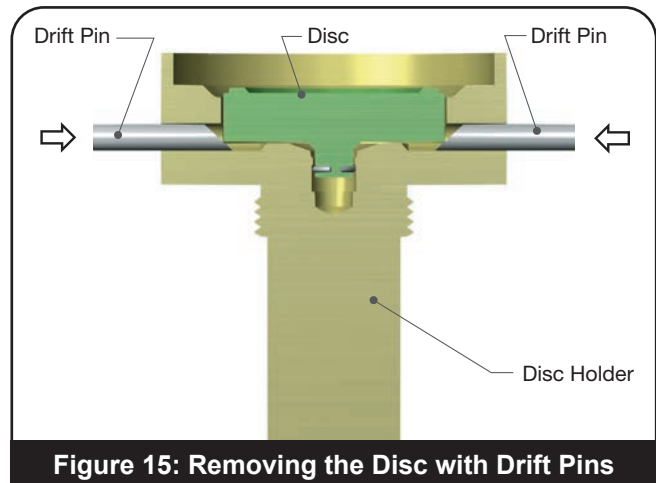

Figure 15: Removing the Disc with Drift Pins
- Start inserting special drift pins into the holes in the disc holder (Figure 15) with the tapered portion of the pins working against the top of the disc,